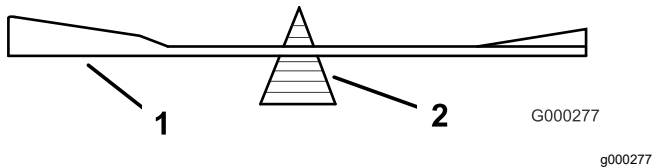

Figure 75
2. Check the balance of the blade by putting it on a blade balancer (Figure 75).